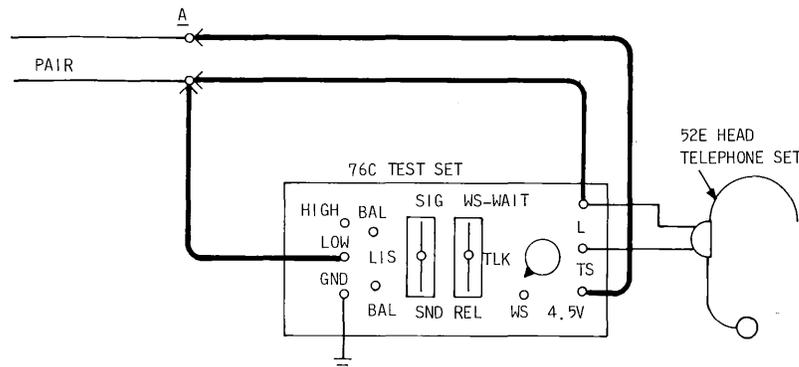

Fig. 15—Connection at Sending End
1	At the sending end (A), make the connections as illustrated in Fig. 15 and send tone on the talking pair with the keys in the SND and WS-WAIT positions.